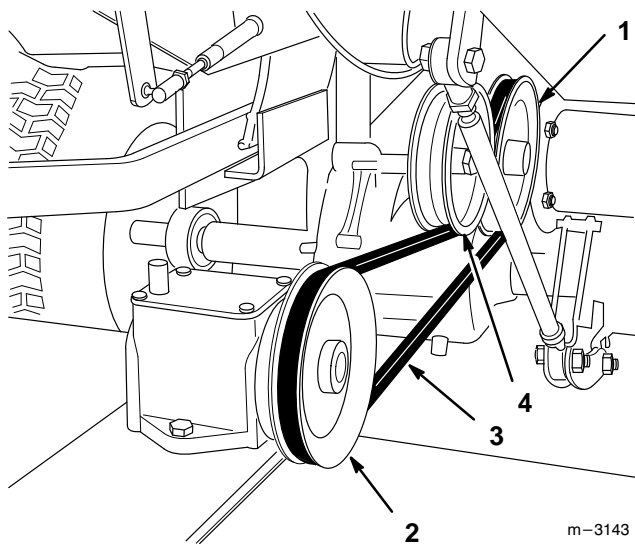

Figure 26
3. Install the new drive belt around the jackshaft pulley, on the traction unit, and the gearbox pulley on the mower (Fig. 26).
4. Raise the idler pulley and position over the upper portion of the drive belt (Fig. 26).